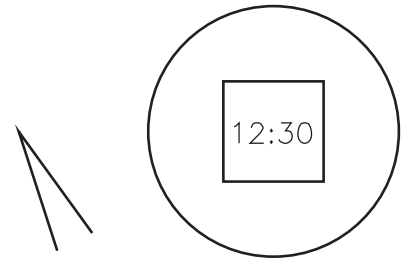

Fig. 32-4
- d. Move the group to a new location, away from the two lines. Set the text height to **.2** and add **12:30** inside the square. Add this text to the group. Your drawing should look similar to the one in Fig. 32-4.